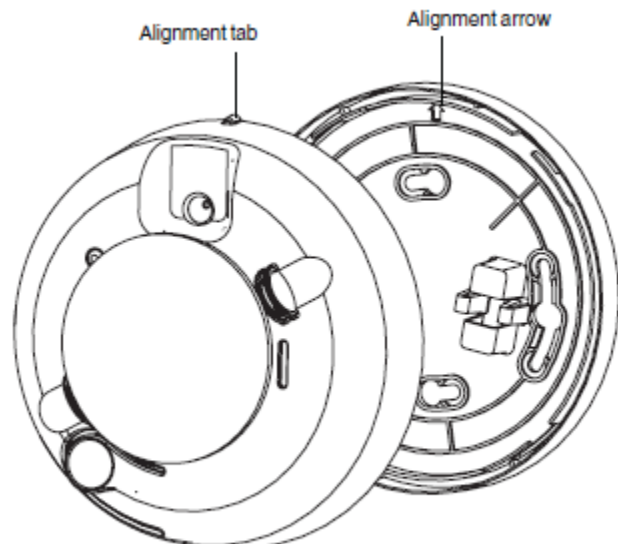

Figure 3. Smoke Alarm-to-Base Alignment
- Line up the raised alignment tab on the lip of the unit with the alignment arrow on the base. See Figure 3.